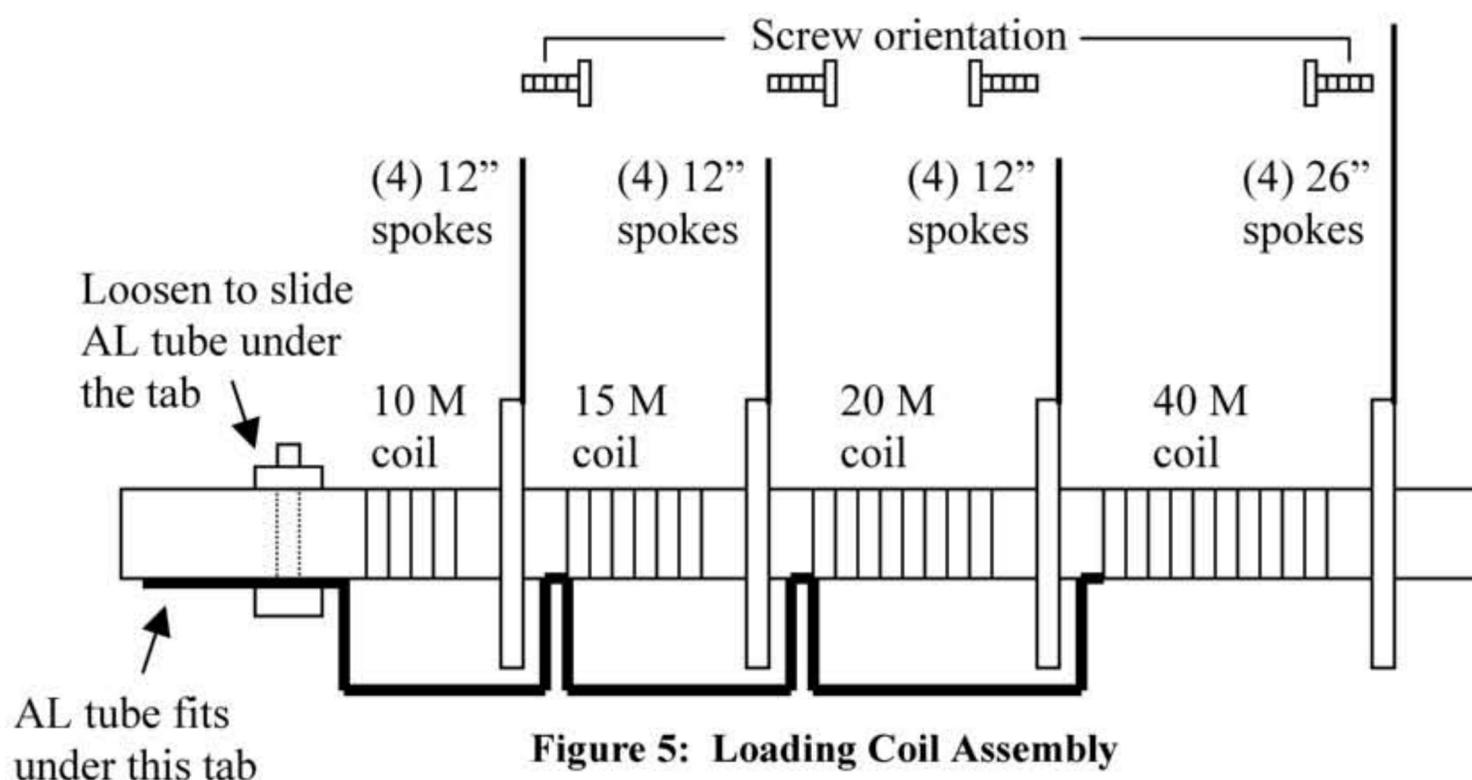

Figure 5: Loading Coil Assembly
- 11) Install the 6-32 screws in all rings of both loading coil assemblies, loosely holding them in place with their associated nuts. Position the screws so the threaded ends of the screws are pointed outward towards the two ends of each loading coil assembly as shown in Figure 5..
- 16) Loosen the mounting screw indicated in Figure 5 so that the aluminum radiator can be slid under the aluminum tab. Slide the aluminum radiator tube until it contacts the mounting screw that was just loosened. Tighten the mounting screw. ***Do not over-tighten this screw or you may BREAK the fiberglass form.*** Slide the last hose clamp over the tab and tighten the hose clamp to firmly attach the loading assembly to the aluminum radiator.